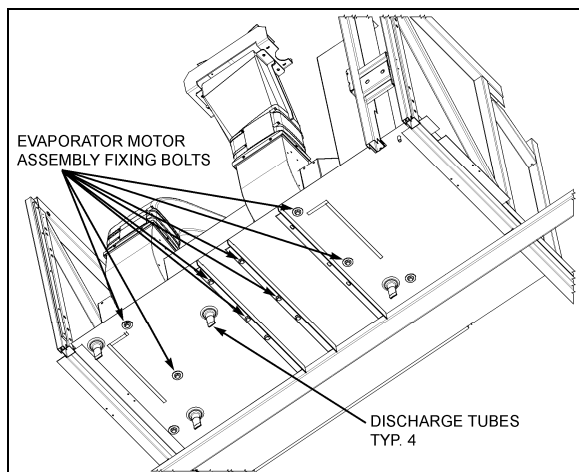

FIGURE 29: EVAPORATOR MOTOR ASSY FIXING BOLTS
- From under the vehicle, remove the eight bolts retaining the evaporator fan motor support. Remove the complete unit from the evaporator compartment (Fig. 29 & 30).